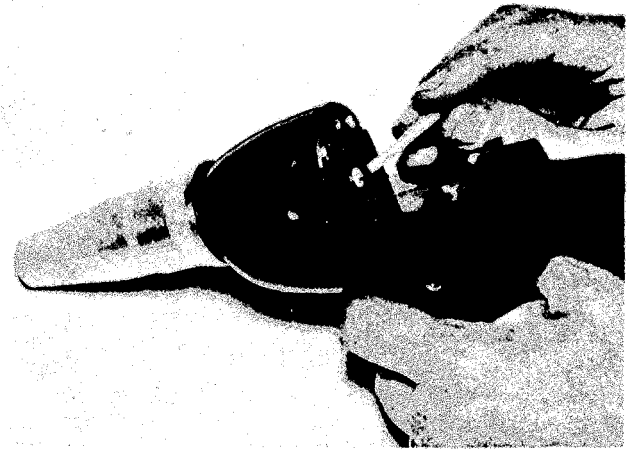
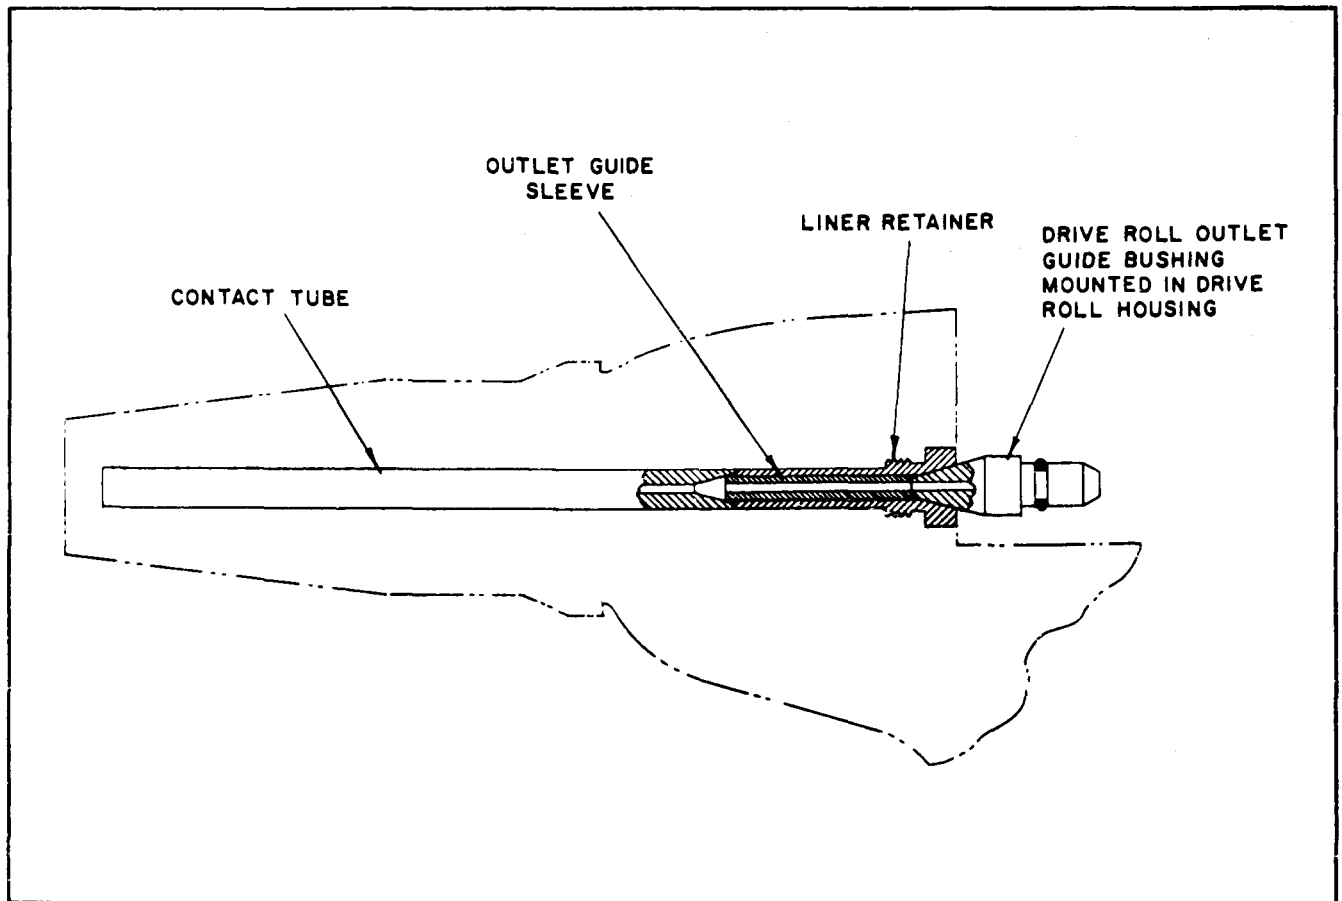

Figure 14. Installing Outlet Guide Sleeve in Gun
Figure 15. Final Position of Wire Guide Fittings in Gun Barrel
a. Insert a 1-3/16-inch long outlet guide sleeve (Fig. 14) into liner retainer of Gun. Push sleeve all the way in until end is at base of retainer counterbore (Fig. 15). (Slots in retainer hold the sleeve in place. )
f. Slide contact tube with collet and nut onto wire protruding from Gun. Push contact tube into barrel until it touches liner retainer (Fig. 15).